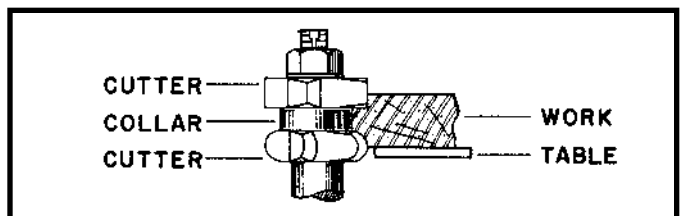

Fig. 34
4. The collar between cutters method (Fig. 34) has the advantages of the first two methods and is frequently used when both edges of the work are to be shaped.